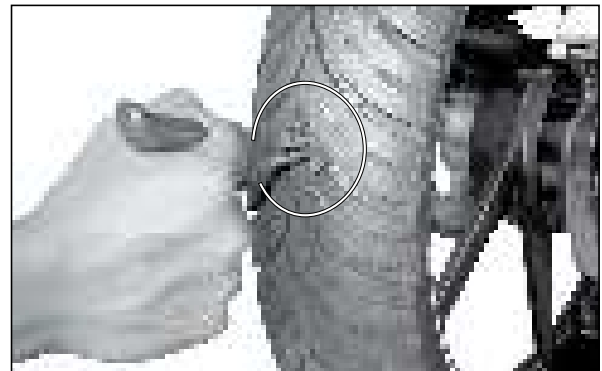

Fig. 6.106
- Insert the strip inserting tool along with strip into the reamed hole till the strip goes inside at least more than half of its folded length. (Fig. 6.106)